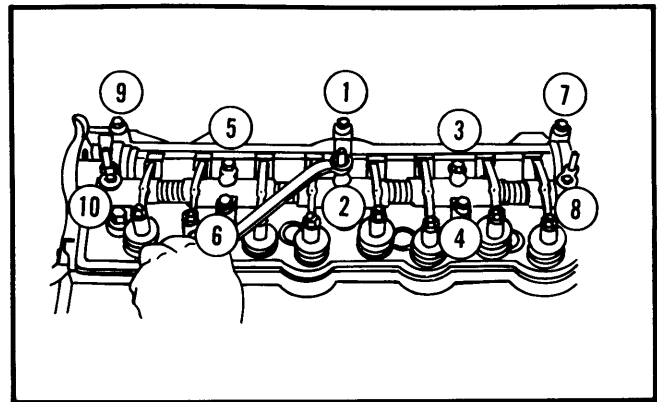
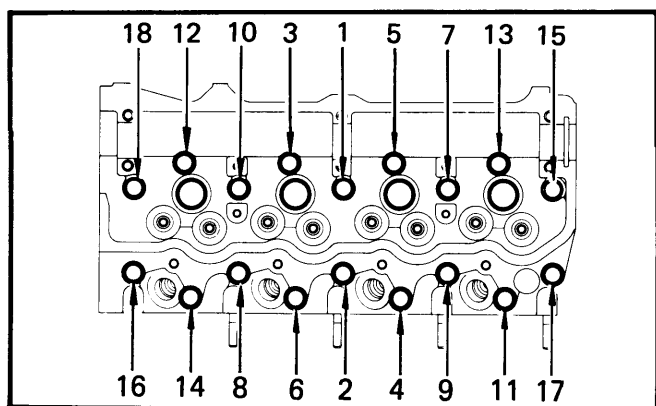

Fig. 1 Rocker Arm Assembly Tightening Sequence (Loosen in Reverse Order to Disassemble)
Fig. 2 Cylinder Head Tightening Sequence (Loosen in Reverse Order to Disassemble)
4) Remove No. 2 oil seal retainer and loosen rocker arm attaching bolts gradually in reverse order of sequence shown in Fig. 1. Remove rocker arm assembly and camshaft. Loosen cylinder head bolts gradually in reverse order of sequence shown in Fig. 2. Remove cylinder head.
Removal — 1) Before removing camshaft, measure camshaft bearing clearance using Plastigage method. Clearance should be between .0009-.0030" (.022-.076 mm) with a limit of .004" (.10mm). With timing belt removed, loosen valve cover attaching bolts and remove valve cover. Gradually loosen rocker arm assembly bolts in reverse order of sequence shown in Fig. 1.